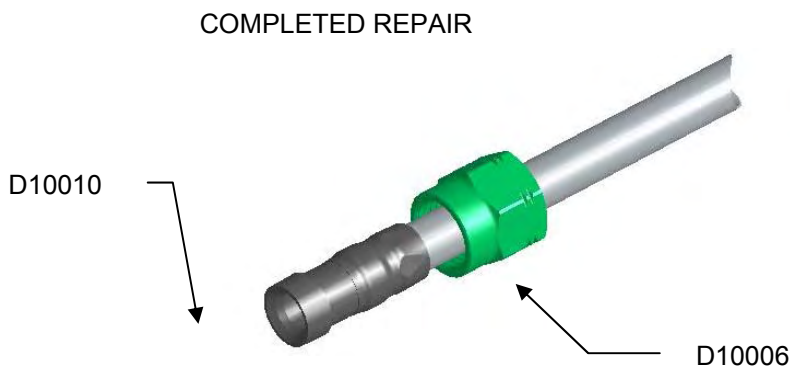

Figure 12: Type 4a Repair
a. Cut off the flared end of the tube as shown in Figure 12 (Below). Refer to Table 12 (Below) to determine the cut-off length ("L"). Use of these cut-off lengths permits repair of the line without splicing new tubing into the line.